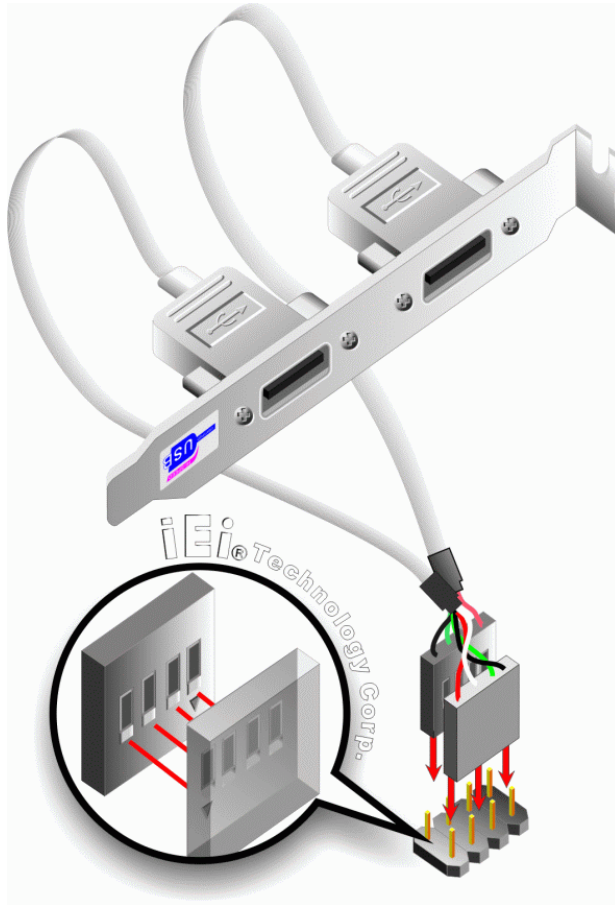

Figure 5-14: Dual USB Cable Connection
Step 3: Insert the cable connectors Once the cable connectors are properly aligned with the USB connectors on the PIC0e-945GSE, connect the cable connectors to the on-board connectors. See **Figure 5-14**.